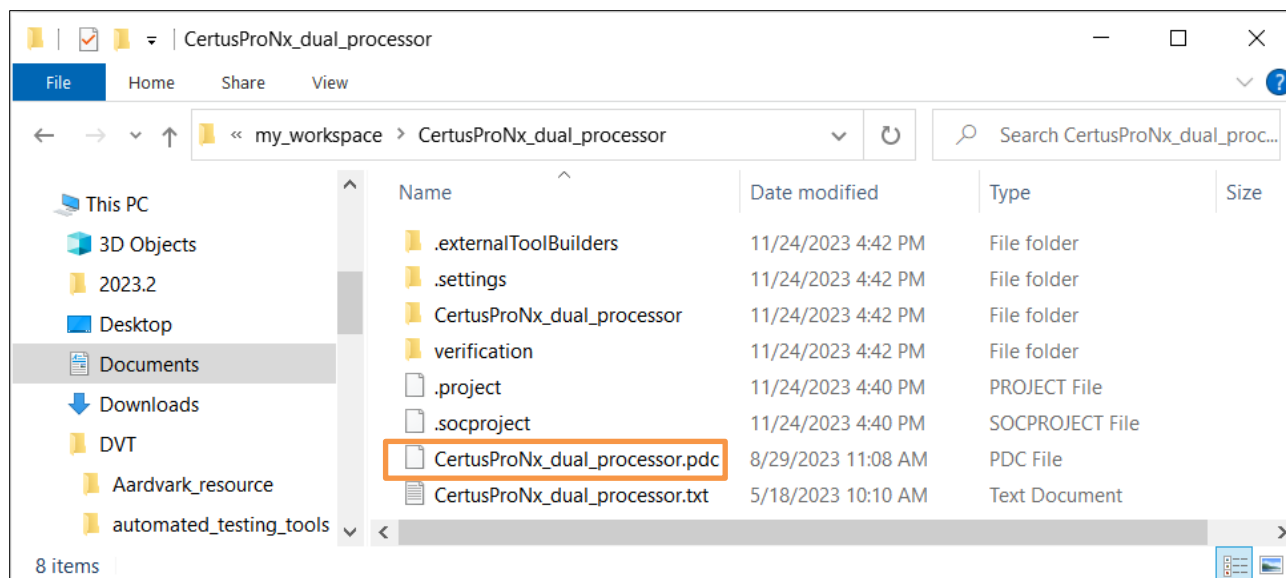

Figure 5.7. Constraint File in Source Project
- a. If the SoC is on board level, copy the Lattice Radiant constraint file from the source project (Figure 5.7). The path is `<workspace>/<project_dir>/<project_name>.pdc`.